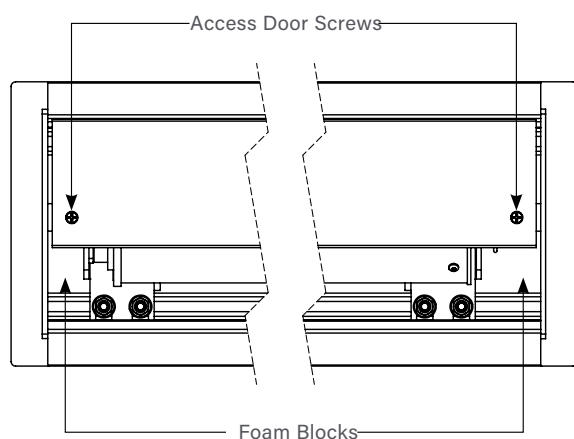

Figure 1
5. For shipping purposes, foam is also inserted between the roller brackets and end caps (Figure 1). Remove these foam blocks from the ends.
1. Remove the access door. First, remove the 2 screws from the ends. Be sure to support the door during this step to avoid injury. Then lift the door slightly and pull away from the edge of the case (Figure 1).